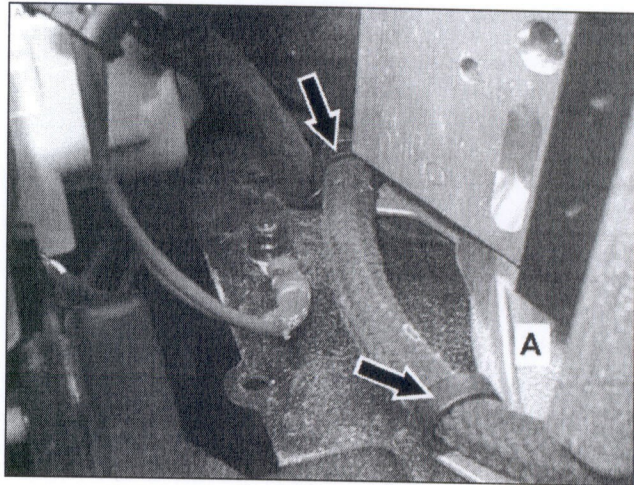

Figure 4
6. Remove omega (arrows, Figure 4) hose clips from SBC hydraulic unit bracket (A).